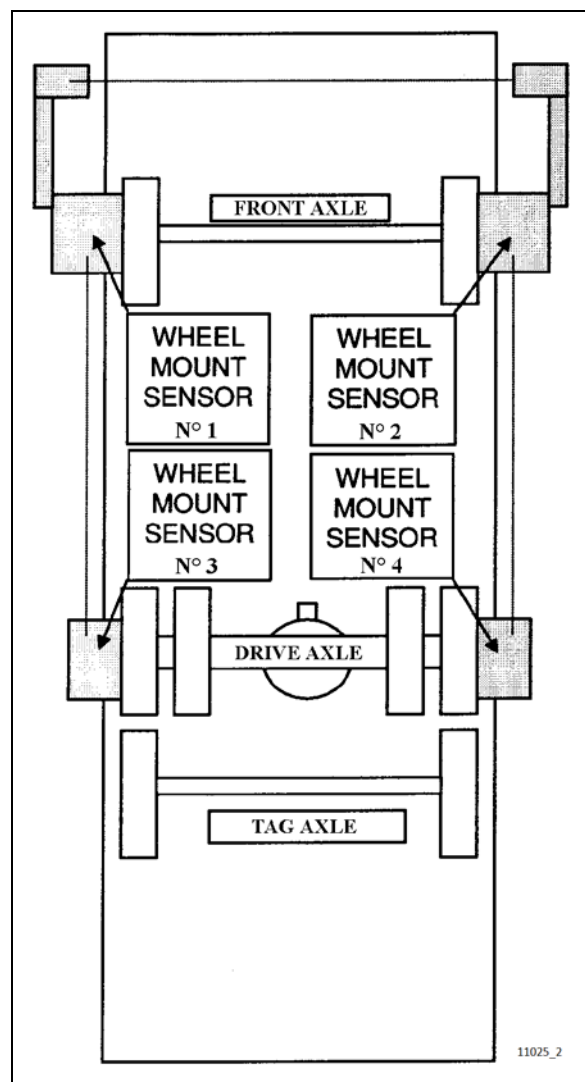

FIGURE 7: FRONT & DRIVE AXLE ALIGNMENT 11025
3. Install wheel mount sensors on front and drive axles (Figure 7).
See reference numbers on wheel mount sensors (Figure 7).
With the system installed as for front axle alignment (Figure 7), adjust drive axle according